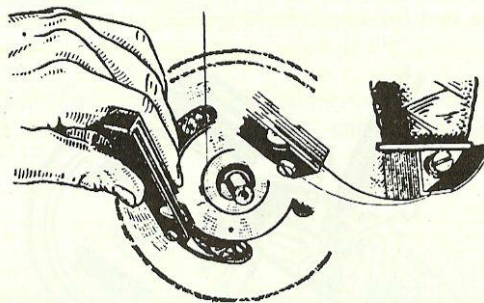
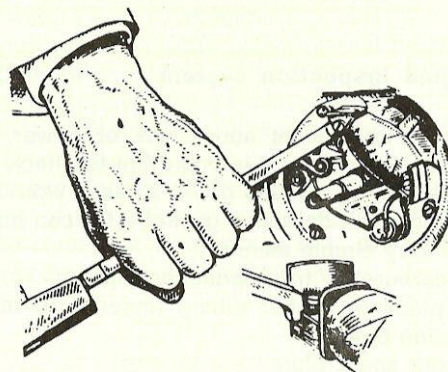

fig. 7
fig. 8
- in case a new coil is fitted, use a feeler gauge of 0.2 mm to check the air gap between inner rim of flywheel and core shoes (fig. 7). Correction is carried out by moving coil in the manner shown in fig. 8, during which the screws should not be fully tightened